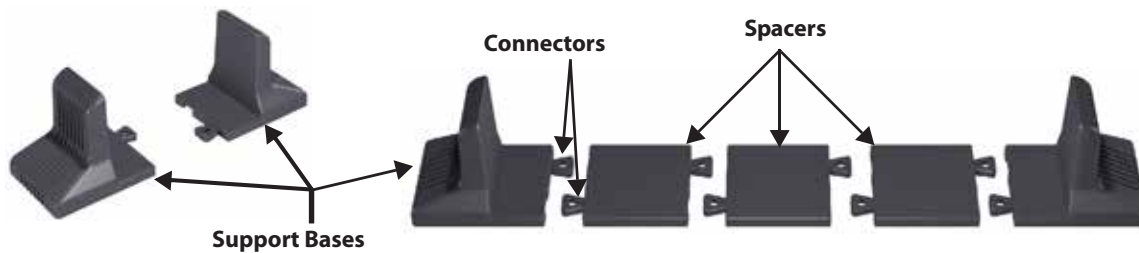

Figure 4: Support bases
1. Take out support bases from the accessories (see Figure 4).
3. Connect the spacers and the support bases as shown in Figure 4. Each S4K2UC needs two assembled support bases, one in the front and one in the rear.